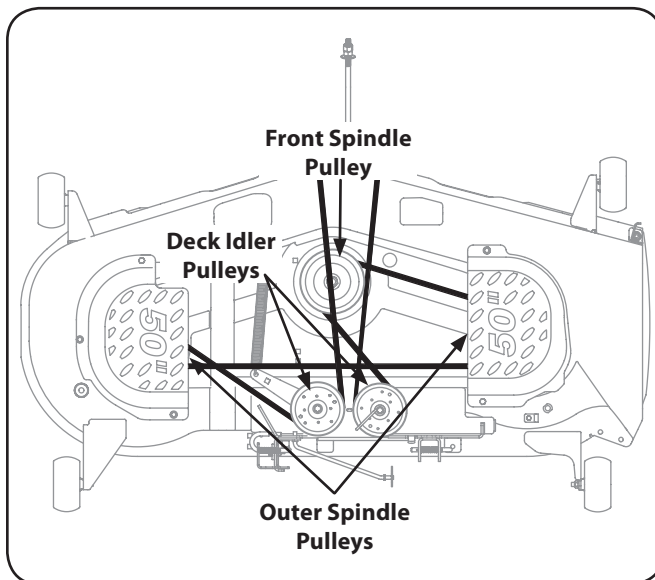

Figure 7-10
5. **On 50" Decks:** To place the new belt, begin by routing the belt around the two outer spindle pulleys, then around the front spindle pulley as shown in Figure 7-10.
6. Then route the belt around the two deck idler pulleys as shown in Figure 7-10.